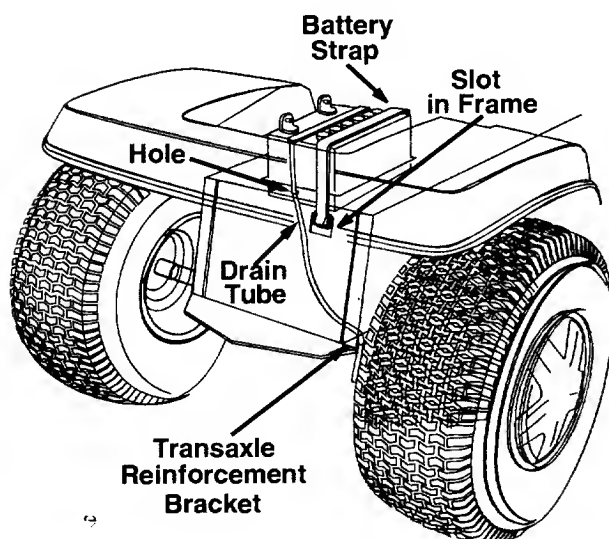

Figure 11
6. Secure battery by hooking battery strap into slot in rear frame, under the fender. See Figure 11.
7. Insert the drain tube down through the hole in the battery compartment and the hole in the transaxle reinforcement bracket located on the **right** side of the unit. See Figure 11. Be certain drain tube is routed away from the wheel rim.